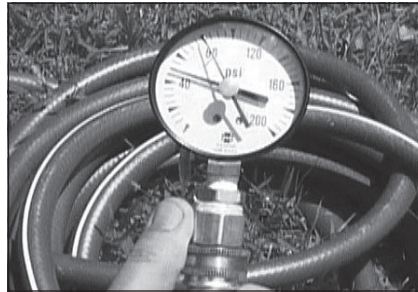

Figure 6 - Use a Water Pressure Gauge to make sure your home's water pressure is not too high.
- Water Pressure Gauge (Figure 6 on page 7)
We recommend checking your home's water pressure with a pressure gauge (Figure 6). Most codes allow a maximum incoming water pressure of 80 psi/550 kpa. We recommend a working pressure no higher than 50-60psi/345-414 kpa.